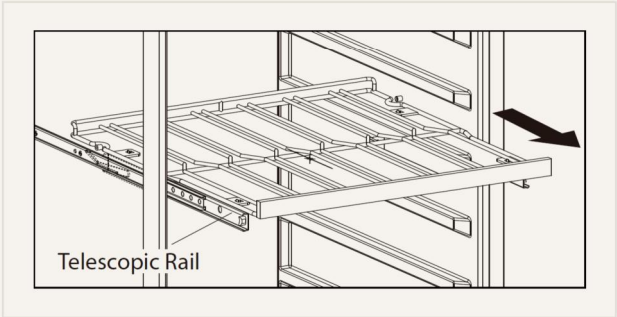

Fig. 6 — Telescopic rail extension.
- Shelves on telescopic rails pull out by up to 70% for easy access (**Fig. 6**).